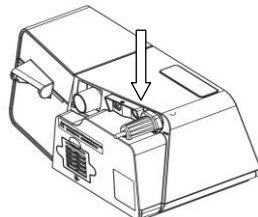

Fig. 10-7
(4) Press the power cord locker downward to fix power cord into the port, as shown in Fig. 10-7.